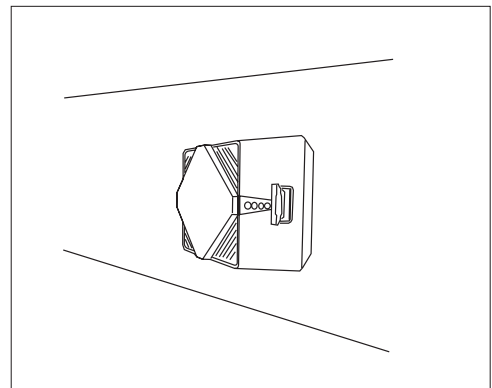

Fig. 7
- Orient the fan so the motor terminal box is pointed upwards. The hinges on the housing should be on the left-hand side of the installer as shown in fig. 7.